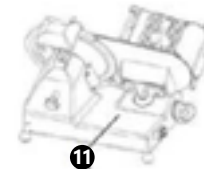

Fig. 9
- Wash the slice tray (11) and housing with a moist, soft cloth and the neutral cleaning agent; dry completely after cleaning (fig. 9).